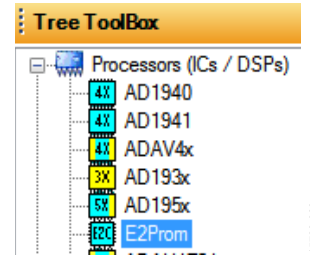

Figure 68. E2Prom IC Selection in SigmaStudio
1. Add an E2Prom block to the project space of the **Hardware Configuration** tab. From the **Processors (ICs / DSPs)** folder, click **E2Prom** (see Figure 68) and drag it into the project space to the right of the toolbox.